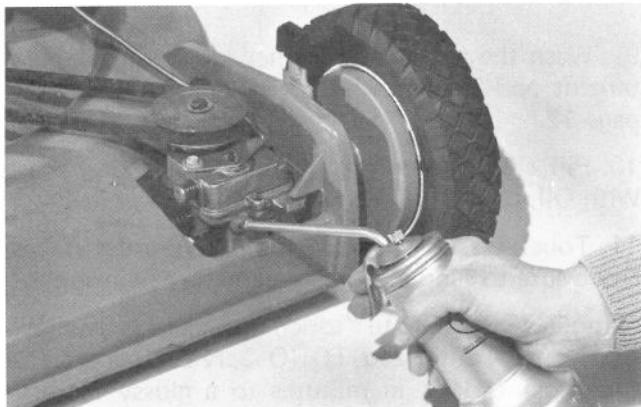

Figure 32
4. Add gear oil to gear case through oil level check hole until gear oil leaks out when gear case is level (Fig. 32).